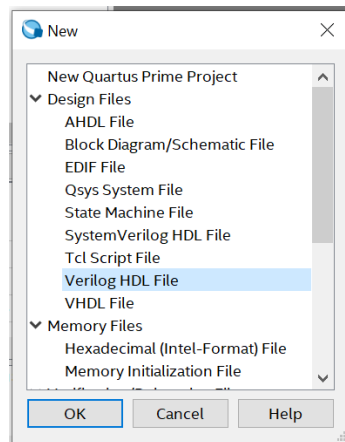

Figure 4: New File Window
- ☐ A window, shown in Figure 4, should pop up. Click on **Verilog HDL File** and then **OK**. For **VHDL**, skip this step.